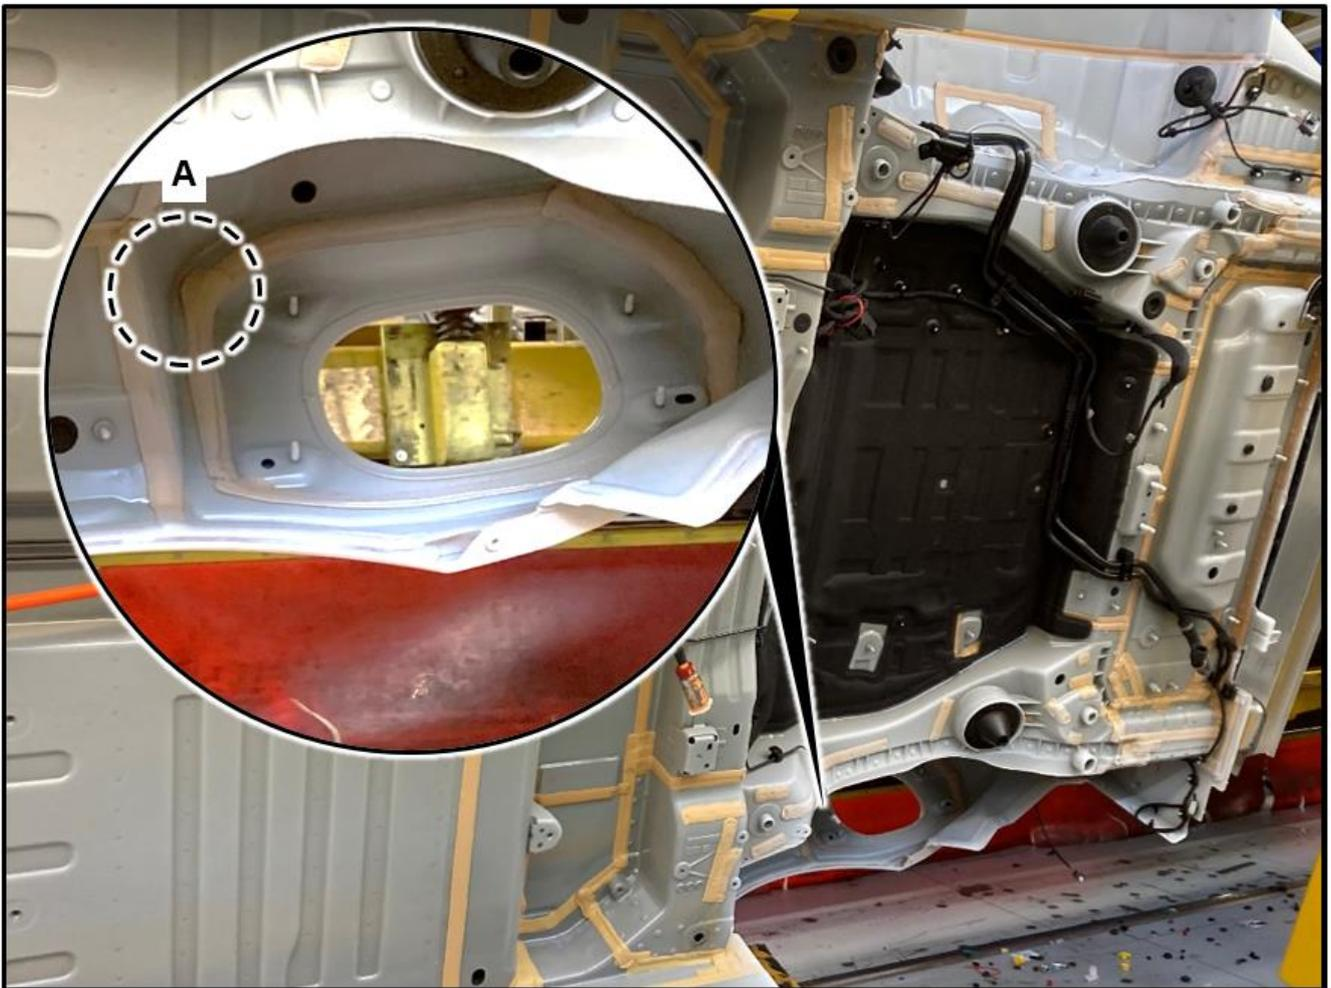

Figure 1
2. Check affected area (A, Figure 1) on inner right side wall for crack.
- a. Area (A, Figure 1) on inner right side wall cracked: Carry out **work procedure**.
- b. Area (A, Figure 1) on inner right side wall **not** cracked: **End measure**.